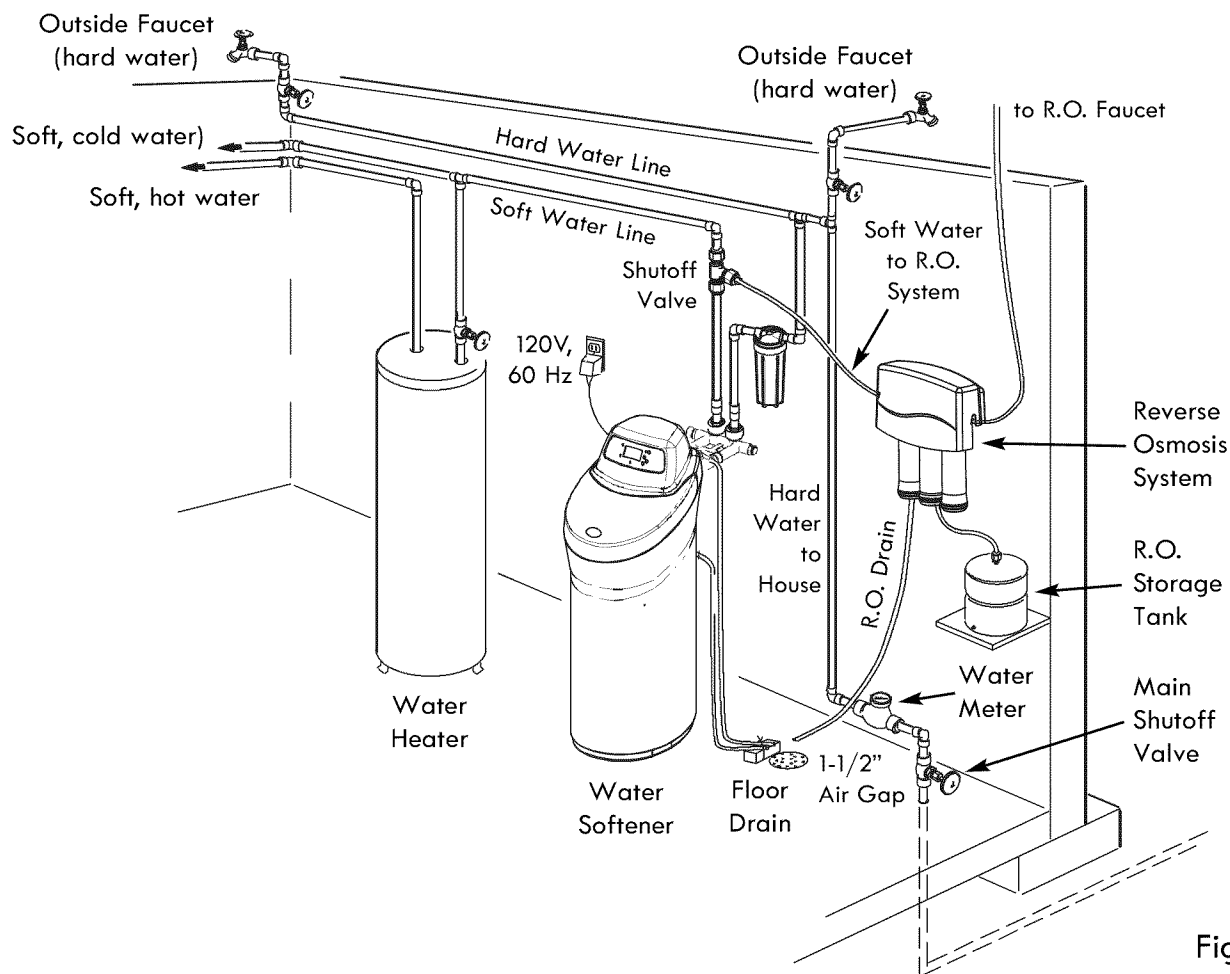

Figure 4
2. Place as close as possible to a water drain such as a floor drain, laundry tub, sump or standpipe (See Fig. 4).
4. Keep outside faucets on hard water to save soft water and salt. See Fig. 4.
7. A grounded, 120V, 60 Hz. electrical outlet is needed within 10 feet of the softener to plug in the transformer (See Fig. 4). Be sure the outlet and transformer are in an inside location, protected from wet weather. Use a continuously "live" outlet, which cannot be accidentally switched off.